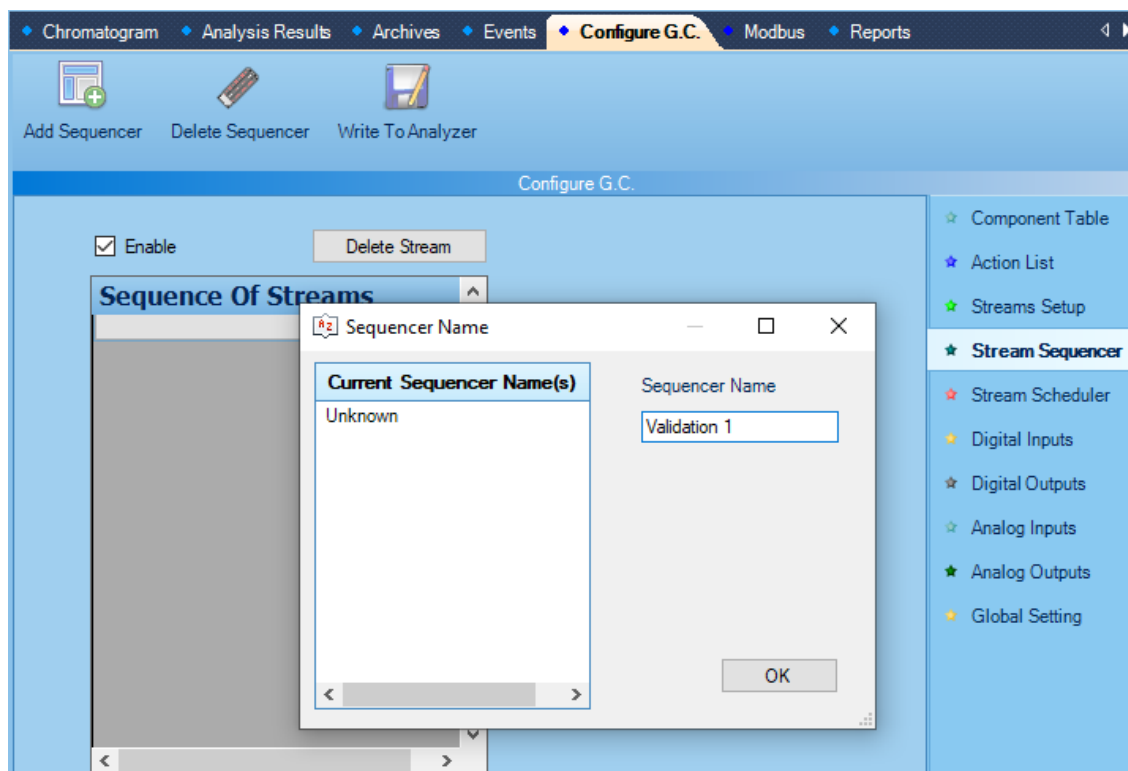

Figure 6-1: Creating a new validation sequence in the Stream Sequencer
- A pop-up prompt will ask the User to give the new Sequencer an appropriately descriptive name as shown in Figure 6-1. Once complete, click OK.